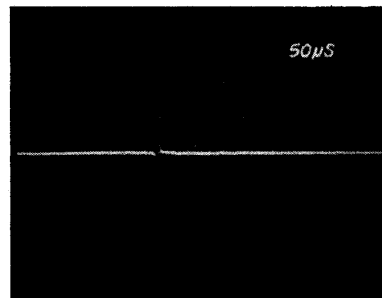

FIGURE 5 INDEX TIMING
- Observe the timing between the start of the sweep and the first data pulse. This should be  $200 \pm 100 \mu$ sec. If the timing is not within tolerance, continue on with the adjustment. Reference Figure 5.